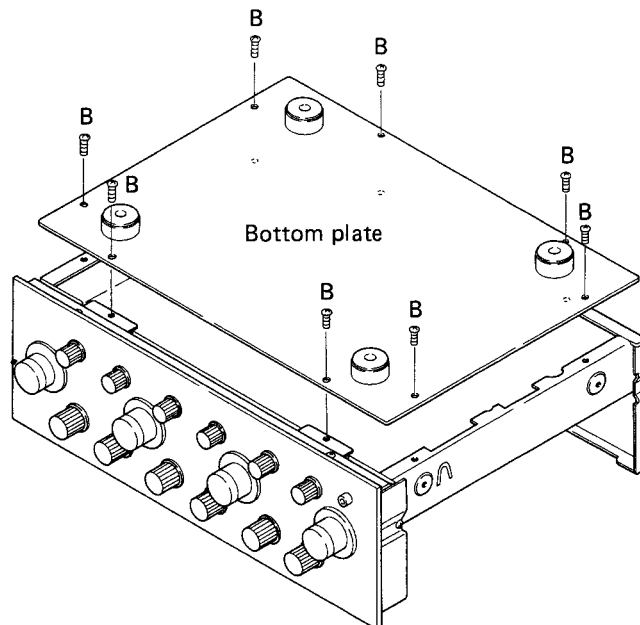

Fig. 20
Remove the 8 screws (B) at the bottom plate and lift off the bottom plate. (See Fig. 20)